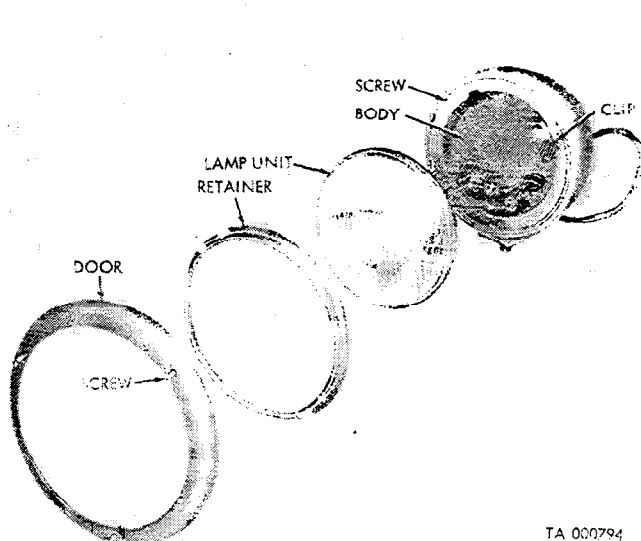

Figure 2-45. Service headlight—partial exploded view.
a. *Replace Service Headlight Lamp Unit (Fig. 2-45).* Both service headlight lamp units are serviced in the same manner.